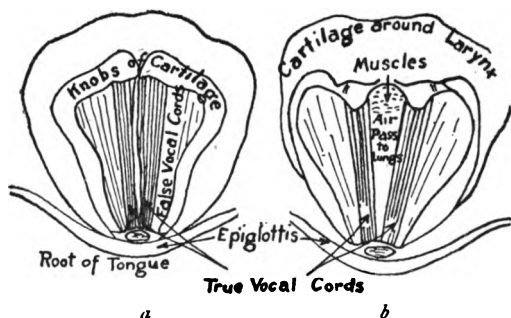

FIG. 166.—(a) CORDS STRETCHED FOR SPEAKING,
**193. Human Voice.** This is the most wonderful musical instrument of all; for not only can the pitch of the note be changed at will, within certain limits, but the quality also can be changed. Here we find the vibrating substance to be a pair of membranes, called the *vocal cords*, which ordinarily lie loosely folded back against the walls of the windpipe near the opening of the pharynx (Fig. 166). When these are stretched tightly by the muscles to which they are attached, a narrow slit is left. As the air from the lungs passes through this slit the membranes are set in vibration. The rapidity of vibration depends upon the tension upon them. The throat, mouth, and nose cavities act as resonators in reënforcing these vibrations. The quality of the sound emitted depends upon the size and shape